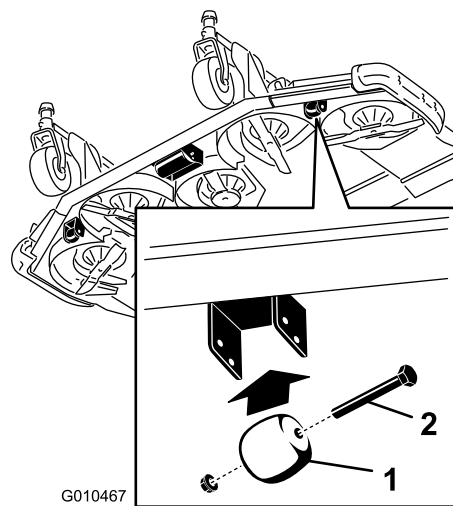

Figure 30
1. Remove the screw and nut securing the roller shaft to the deck bracket (Figure 30).
1. Remove the bolt and nut securing the gage wheel to the cutting unit brackets (Figure 30).